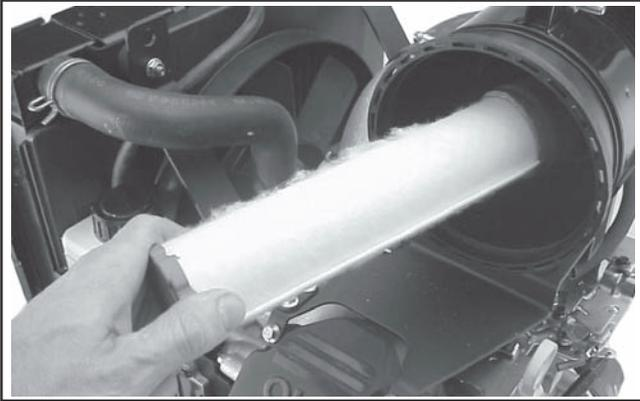

Figure 17. Removing Inner Element.
- After the main element is removed, check the condition of the inner element. It should be replaced whenever it appears dirty, typically every other time the main element is replaced. Clean the area around the base of the inner element before removing it, so dirt does not get into the engine. See Figure 17.